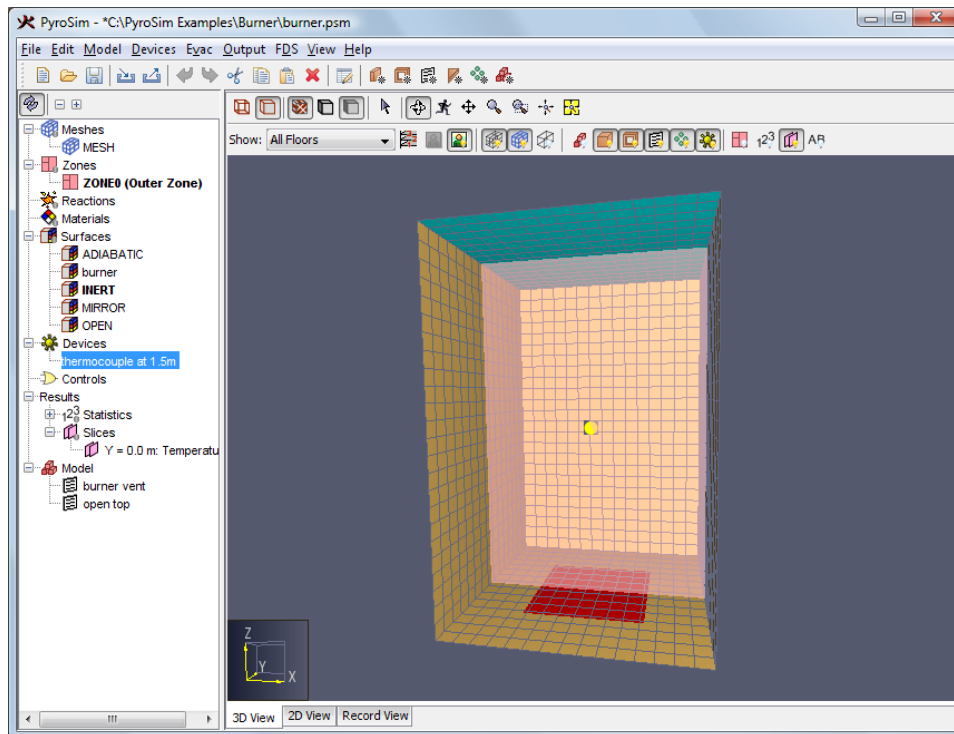

Figure 2.6. The Burner Fire model
2. Press the **left mouse button** in the **3D View** and drag to orbit the model. In Figure 2.6 the burner is shown in red and the thermocouple as a yellow dot. The slice plane is semi-transparent and the open vent is blue.